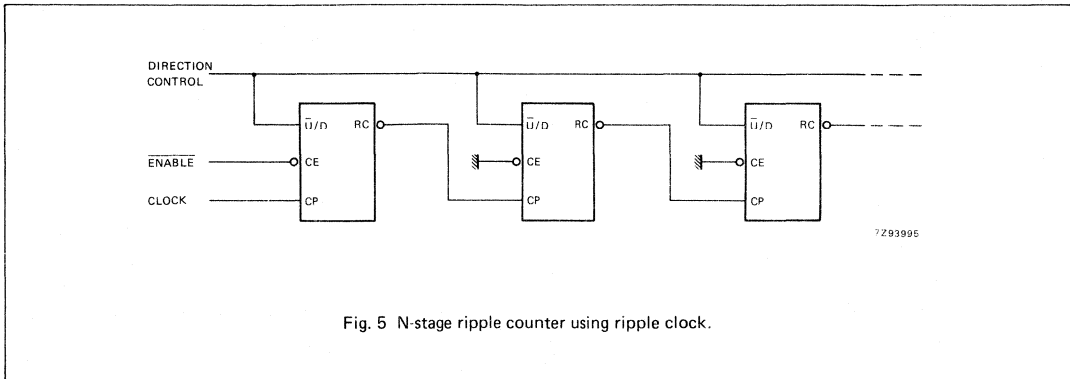

Fig. 5 N-stage ripple counter using ripple clock.
Overflow/underflow indications are provided by two types of outputs, the terminal count (TC) and ripple clock ( $\overline{RC}$ ). The TC output is normally LOW and goes HIGH when a circuit reaches zero in the count-down mode or reaches "9" in the count-up-mode. The TC output will remain HIGH until a state change occurs, either by counting or presetting, or until  $\overline{U/D}$  is changed. Do not use the TC output as a clock signal because it is subject to decoding spikes. The TC signal is used internally to enable the  $\overline{RC}$  output. When TC is HIGH and  $\overline{CE}$  is LOW, the  $\overline{RC}$  output follows the clock pulse (CP). This feature simplifies the design of multistage counters as shown in Figs 5 and 6.
In Fig. 5, each  $\overline{RC}$  output is used as the clock input to the next higher stage. It is only necessary to inhibit the first stage to prevent counting in all stages, since a HIGH on  $\overline{CE}$  inhibits the  $\overline{RC}$  output pulse as indicated in the function table. The timing skew between state changes in the first and last stages is represented by the cumulative delay of the clock as it ripples through the preceding stages. This can be a disadvantage of this configuration in some applications.
In Fig. 7, the configuration shown avoids ripple delays and their associated restrictions. Combining the TC signals from all the preceding stages forms the  $\overline{CE}$  input for a given stage. An enable must be included in each carry gate in order to inhibit counting. The TC output of a given stage is not affected by its own  $\overline{CE}$  signal therefore the simple inhibit scheme of Figs 5 and 6 does not apply.